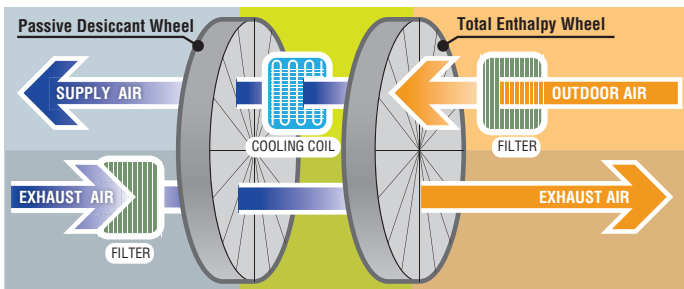

Figure 2. Dedicated Outside Air System with mechanical refrigeration and desiccant-based energy recovery
- Dedicated Outdoor Air Systems (DOAS) offer an improved approach to commercial ventilation – these systems de-couple and pre-treat ventilation air independently from interior air and can be optimized for that purpose. After leaving the DOAS, the now conditioned air is often distributed throughout the building via the main HVAC ductwork or may be independently ducted (Figure 2).